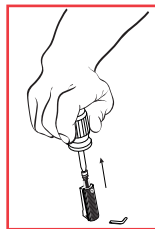

Fig. 15-3
4. Slowly and carefully release the pressure on the spring cap allowing it to move out of the mainspring housing. (Fig. 15-3)